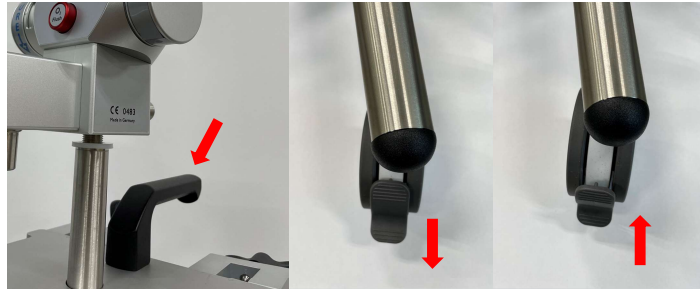

Figure 7. Movement and Locking
- 1) Roll unit into desired location using mobility handle. (See Figure 7)